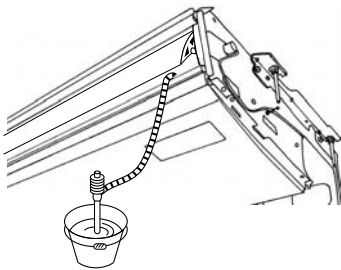

Fig. 5-3
2. Fasten the socket cover ⑥ supplied with the unit to the joint socket ⑤.
3. Attach the field drain tubing (VP-20) to the joint socket ⑤ with a vinyl chloride adhesive.
4. Wrap the drain tubing cover ⑦ supplied with the unit. (Seam taping)
- Ⓒ Socket cover ⑥
- Ⓓ Joint socket ⑤
- Ⓔ Drain tubing cover ⑦
5. Check for correct drainage. (Fig. 5-3)